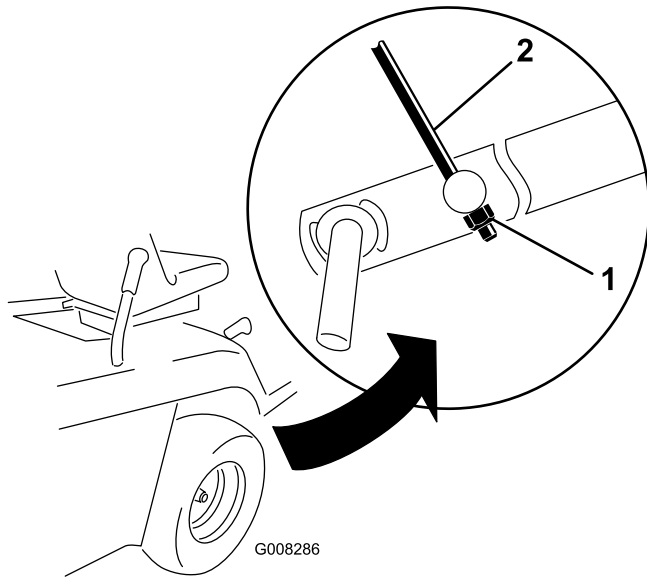

Figure 44
9. Adjust the M8 locknut at the end of the height adjustment rod assembly until the rod is slightly taut (Figure 44).